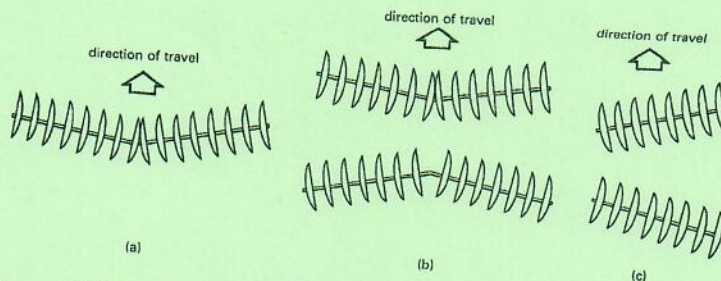

Figure 2. Three types of disc harrows
- d) Figure 2 shows three types of disc harrows.